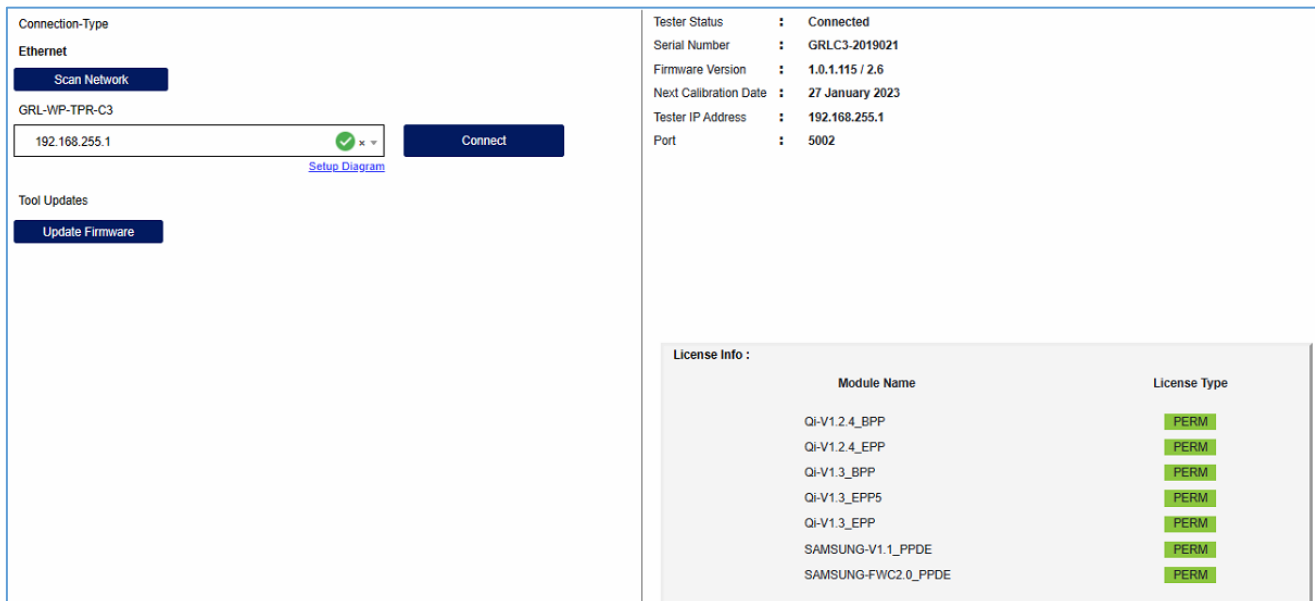

FIGURE 7.8: UPDATE GRL-C3 FIRMWARE– #5
6. The GRL-C3 tester hardware and Browser App should now be connected and ready for use with updated firmware (Figure 7.8 below).